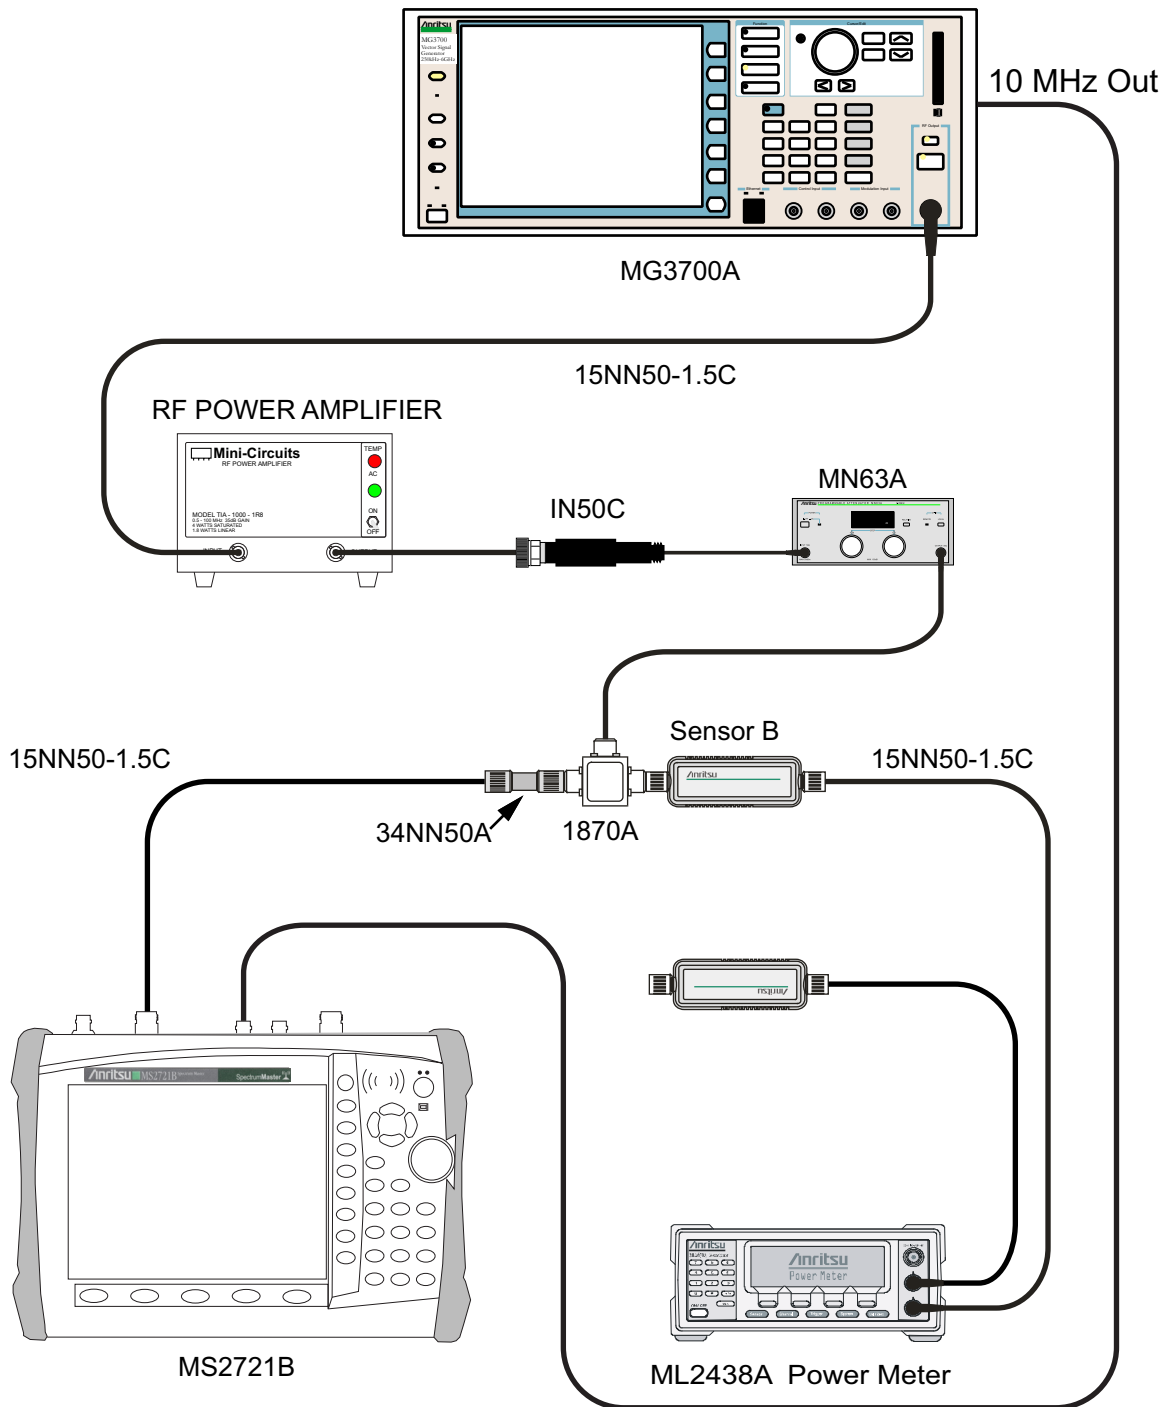

Figure 3-5. Level Accuracy Verification Setup – Sensor B Only
26. Remove Sensor A from the Power Splitter and then connect the Power Splitter to the MS2721B Spectrum Analyzer RF In port with an N-Male to N-Male adapter as shown in Figure 3-5.
62. Remove Sensor A from the Power Splitter and then connect the Power Splitter to the MS2721B Spectrum Analyzer RF In port with an N-Male to N-Male Adapter as shown in Figure 3-5, “Level Accuracy Verification Setup – Sensor B Only” on page 3-13.
13. Remove Sensor A from the splitter and connect the MS2721B RF In port to the open end of the splitter using an adapter as shown in Figure 3-5, “Level Accuracy Verification Setup – Sensor B Only” on page 3-13.